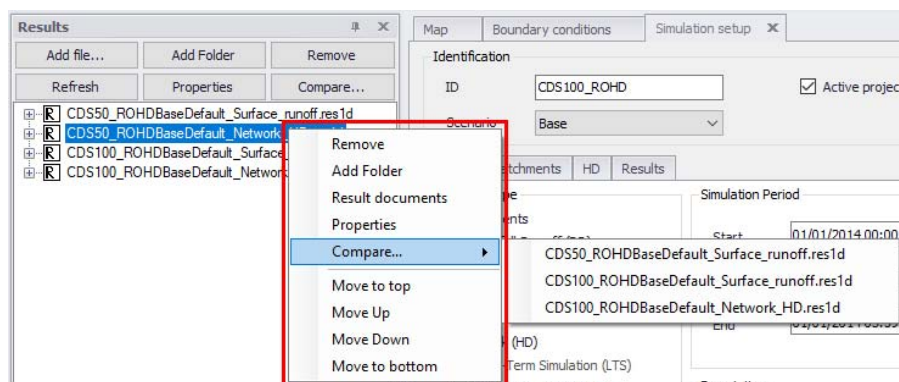

Figure 20.98 Compare results via the local context menu
- Alternatively, launch a file comparison via the results manager local context menu by right-clicking on a result file layer (Figure 20.98).